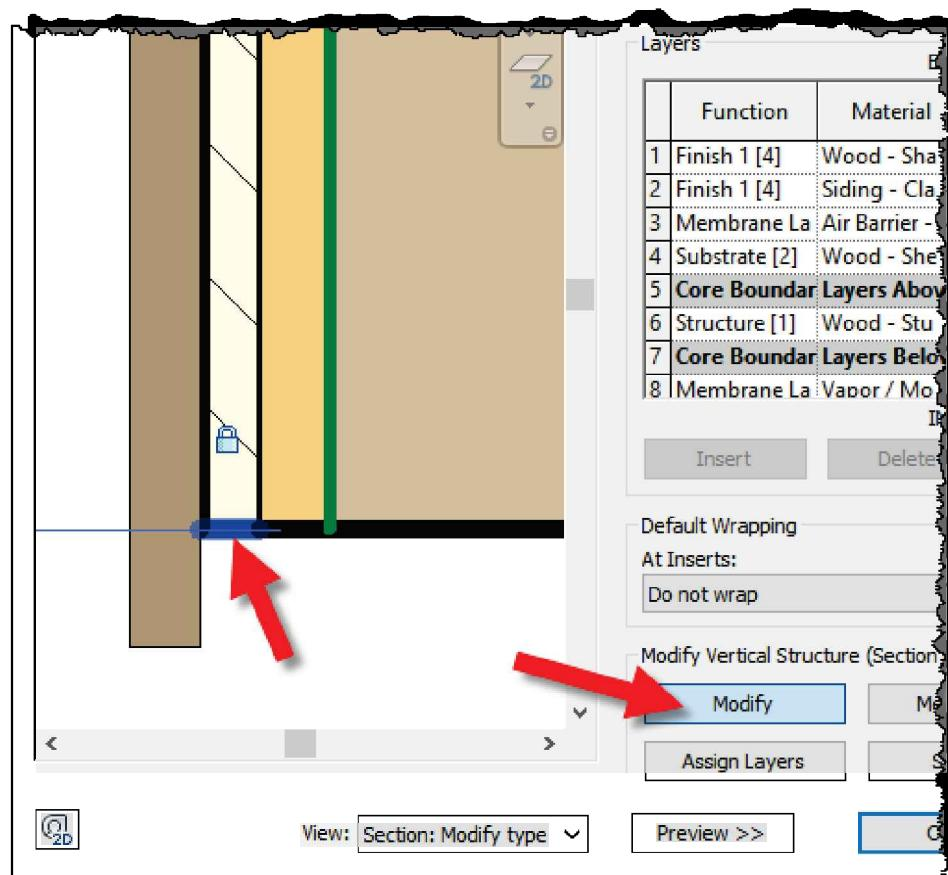

FIGURE 11-3.8 Enabling base extension for selected wall type
13. Click the **Modify** button (Figure 11-3.8).
14. Click the bottom edge of the siding “layer” (Figure 11-3.8).